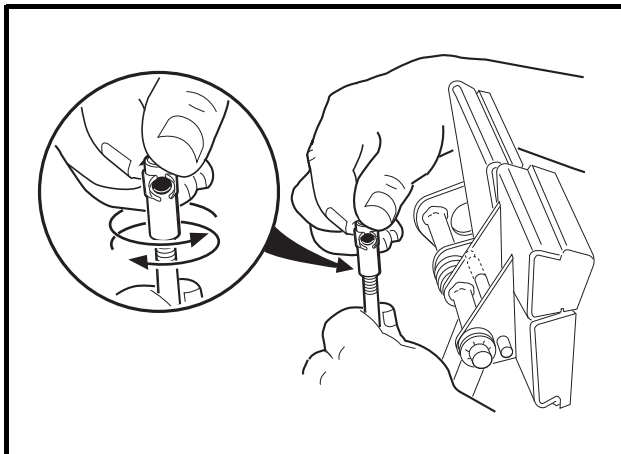

Figure 5-27 Brake Rod Adjustment
- 3.6. If ratchet/pawl engagement must be adjusted, disconnect the ball joint at the top of the brake rod and rotate the ball joint sleeve clockwise to increase engagement or counterclockwise to decrease engagement. Reconnect ball joint (**Figure 5-27, Page 5-18**).